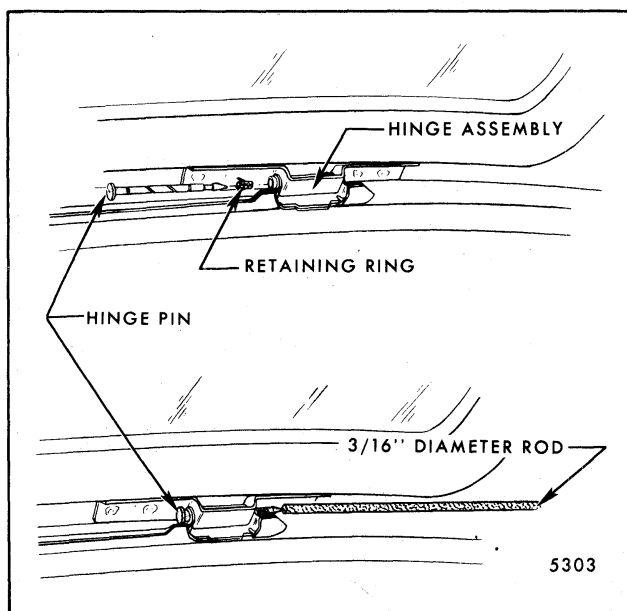

Fig. 7-97-Tailgate Hinge Pin Removal
9. Use a 3/16" diameter rod, 18" long to remove hinge pins from hinge. As shown in Figure 7-97, place end of rod against pointed end of hinge pin; then, strike rod firmly to shear retaining clip tabs and drive pin through hinge. Repeat operation on opposite side hinge and remove tailgate from body.
1. Install new retaining rings onto notches provided in hinge pins. Position rings so that tabs point toward head of pin as shown in Figure 7-97.